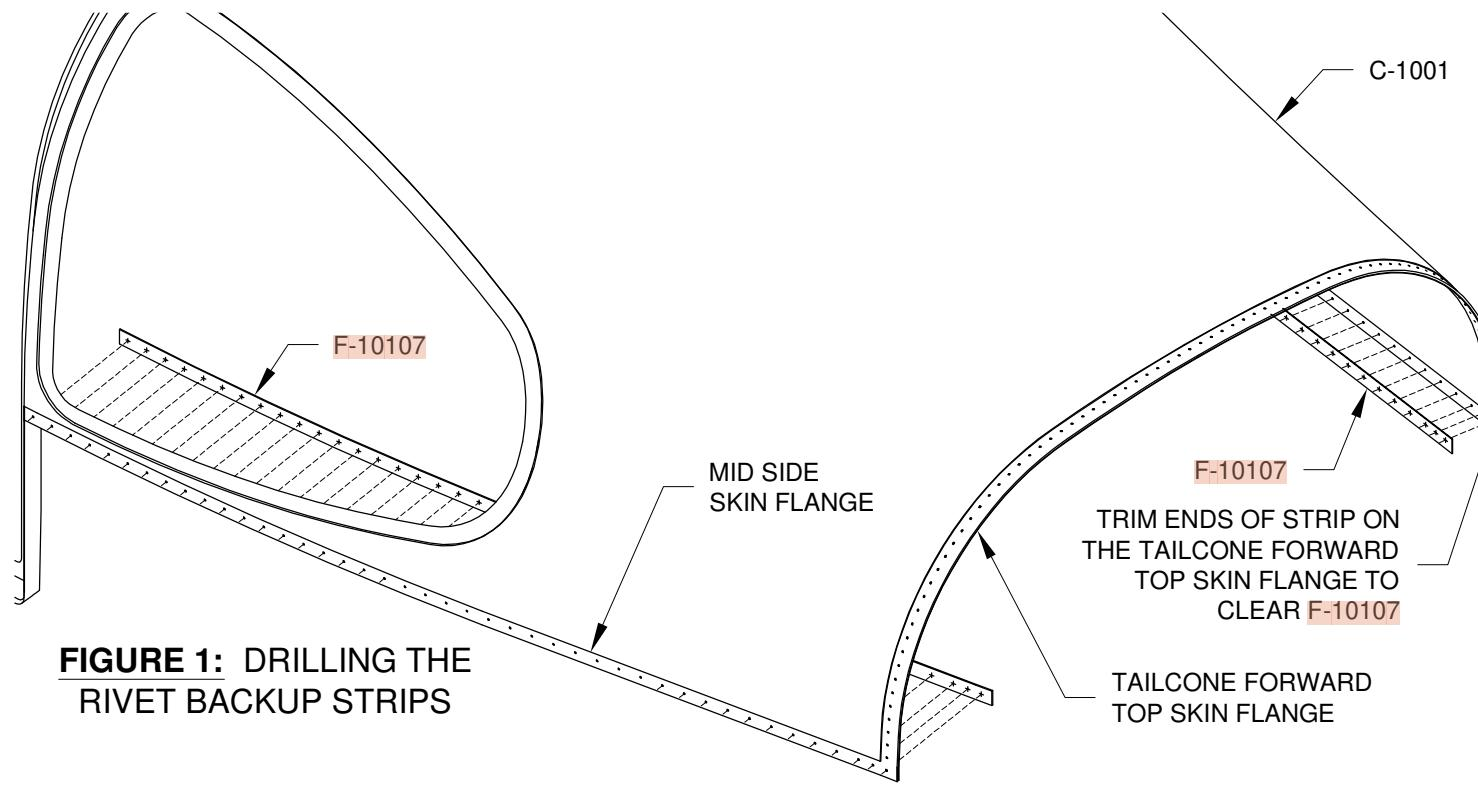

FIGURE 1: DRILLING THE RIVET BACKUP STRIPS
Step 1: Clamp the F-10107 Rivet Backup Strips, shown in Figure 1, to the mid side skin flanges so that the bottom of the strips are even with the bottom of the flanges. Trim the ends of the strip which is on the tailcone forward top skin flange to clear the rivet backup strips (see Figure 1).